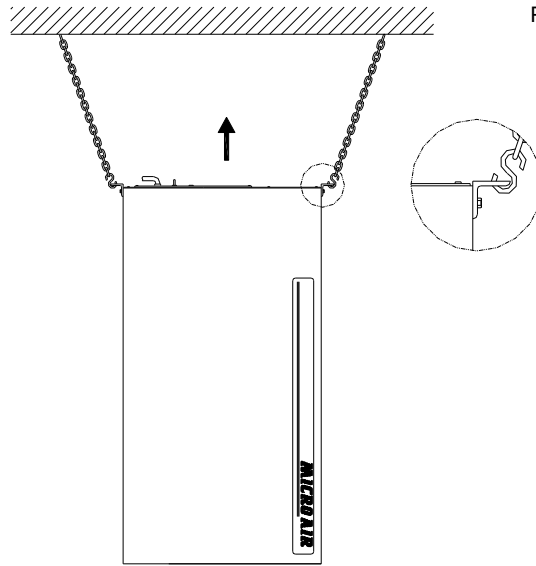

FIGURE 2
4. For vertical installation, use the optional vertical support bracket kit #34088-04. The support brackets are secured to cabinet by using the 1/4-20 hex bolts supplied with the MX 1800 (See **Figure 2**).